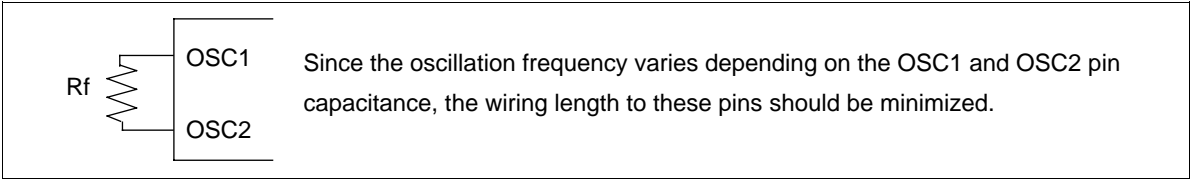

Figure 44 Internal Oscillation
11. Applies to the internal oscillator operations using external oscillation resistor Rf (figure 44 and table 28).